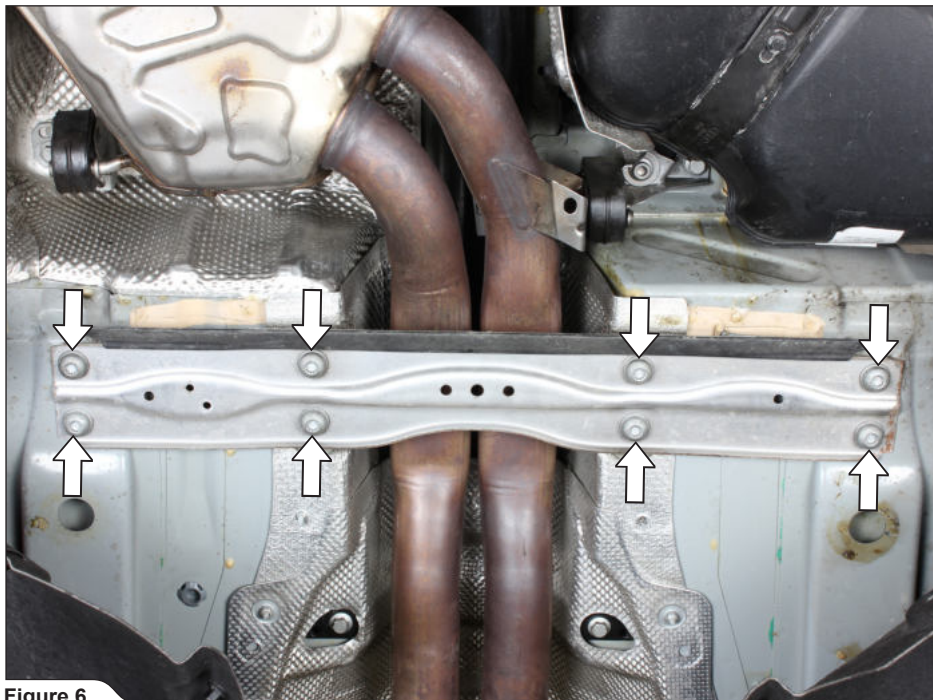

Figure 6
3. Unscrew the front chassis reinforcement (**Figure 6**).